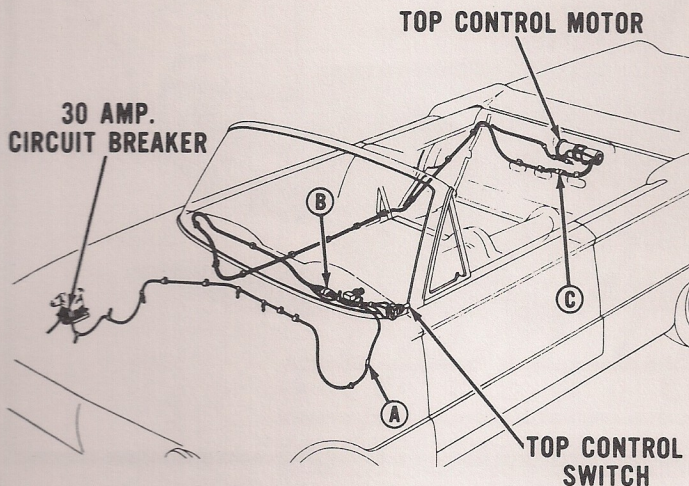
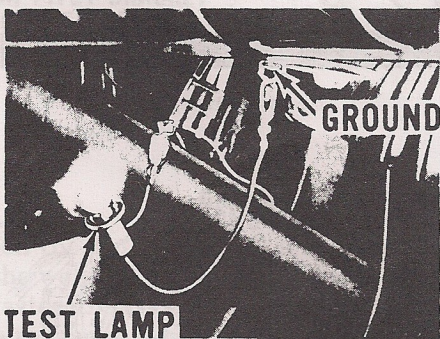

Figure 1—Convertible Top Electrical System
Figure 3—Test Lamp For Switch Wiring
The conventional convertible top electrical system uses an electric motor, a control switch, a circuit breaker and the necessary wiring to complete the circuit as shown in the illustration (Fig. 1).
1. Connect one test lamp lead to the black (feed) wire of the top control switch, connect the other lead to a good ground (Fig. 3). The illustration, Fig. 1, shows the approximate location of the top control switch. If the test lamp lights there is power at the switch. If the test lamp fails to light, there is an open or short circuit between the battery and the switch.